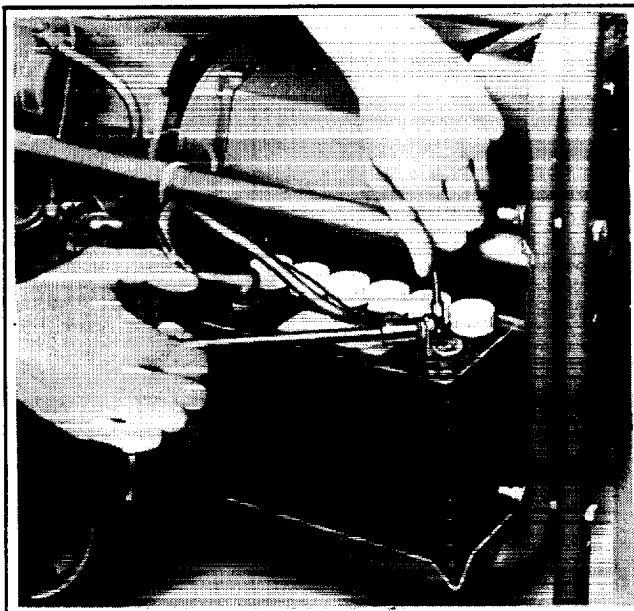

Figure 2. Connecting To Battery Negative
3. Attach unmarked wire to negative battery cable and connect to battery negative (-). See Figure 2.